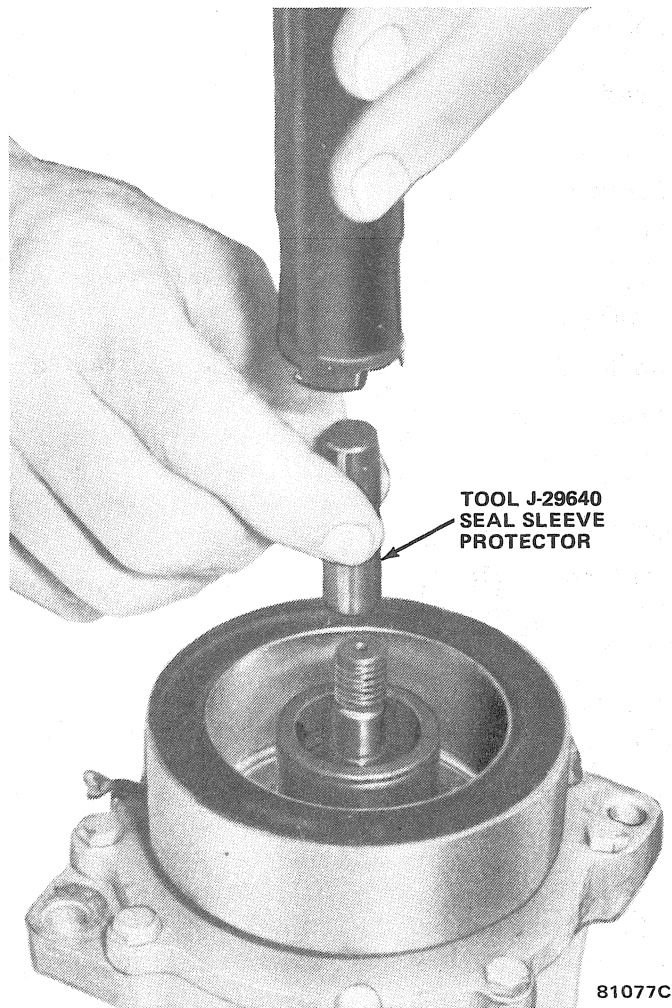

Fig. 3E-31 Shaft Seal Replacement
(12) Dip mating surfaces of seal lapping surfaces in clean refrigerant oil.
(13) Engage slots of Seal Remover and Installer J-29639 in slots in seal cage and insert seal assembly firmly into place in compressor seal cavity. Twist tool in opposite direction to disengage tool from seal cage (fig. 3E-30).